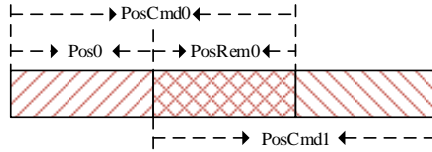

Figure 12.14 Relative position command operation
② The relative position command uses the actual position value as the reference point. The position command value of the latter segment uses the actual position as the reference point to calculate the target position. As shown in Fig. 12.14, the set value of the first segment position command is PosCmd0, and after running the pulse of Pos0, the second segment relative position command PosCmd1 is inserted, so that the total number of pulses run by the second segment position command is PosCmd1, and the final running position value is $Pos0 + PosCmd1$.